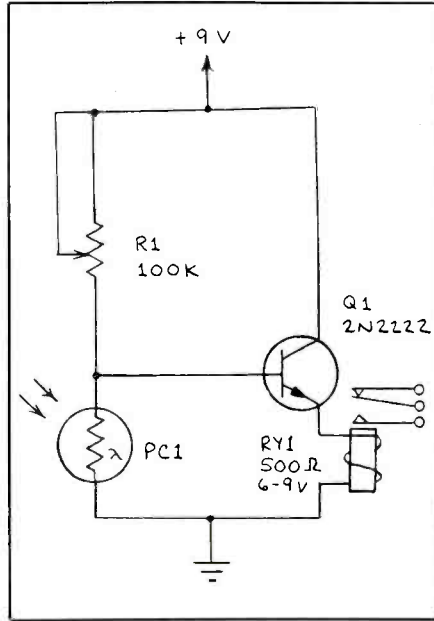

Fig. 11. A dark-activated relay.
• **Dark-Activated Relay.** The Fig. 11 circuit is the opposite of the previous circuit. When *PC1* is illuminated in this circuit, the relay is *not* actuated. Only when the light level on *PC1* falls below a certain point, determined by the setting of